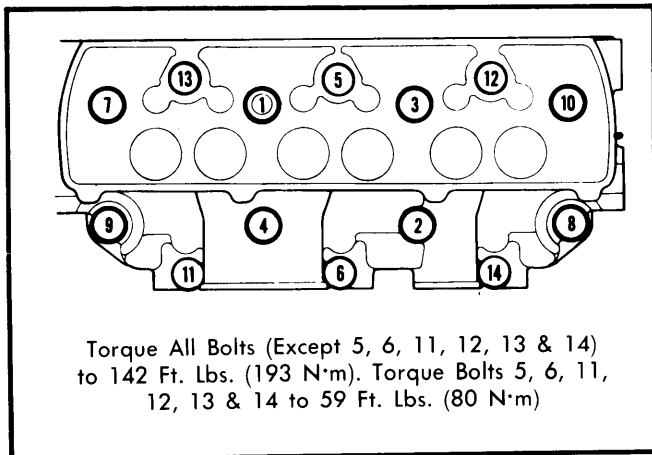

Fig. 2 Cylinder Head Tightening Sequence
2) Install glow plug, injection nozzle and cylinder head. Clean and dip cylinder head bolts in engine oil and install. Tighten in 2 steps, following sequence shown in Fig. 2. Reverse removal procedure to complete installation.